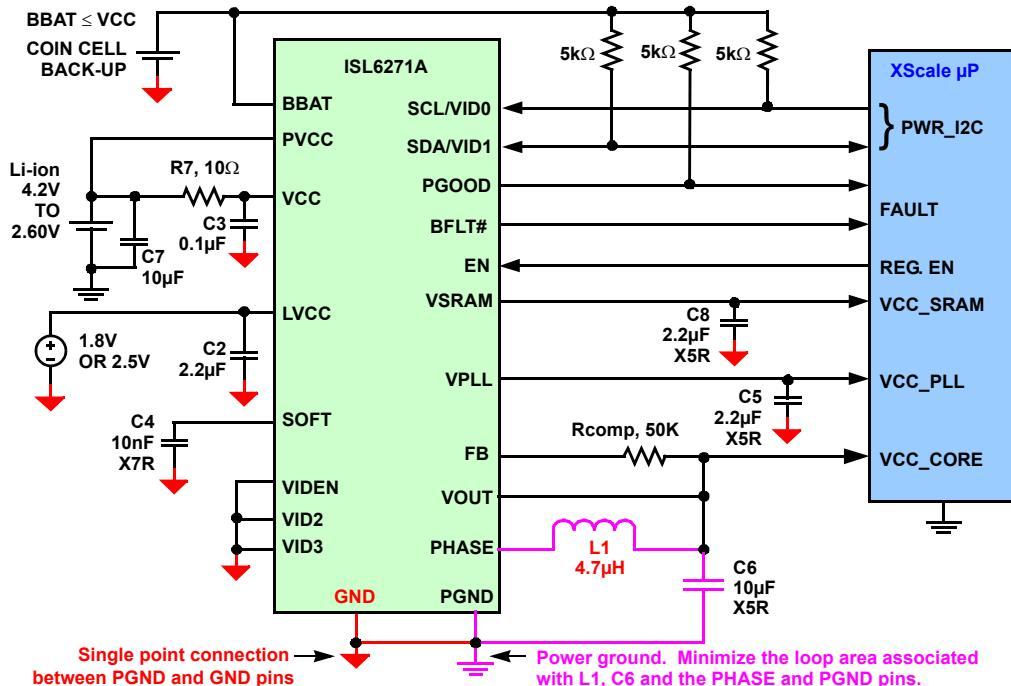

FIGURE 19. TYPICAL APPLICATION CIRCUIT
To minimize switching noise, it is important to keep the loop area associated with the phase node and output filter as short as possible. It is also important that the input voltage decoupling capacitor C7 be located as close to the PVCC pin as possible and that it has a low impedance return path to the PGND pin. In general a good approach to layout is to consider how switching current flows in a circuit, and to minimize the loop area associated with this current. In the case of the switching regulator, current flows from C7 through the internal upper P-MOSFET, to the load through the output filter and back to the PGND pin. *To maximize the effectiveness of any decoupling capacitor, minimize the parasitic inductance between the capacitor and the circuit it is decoupling.* Notice that Figure 19 illustrates the SIGNAL ground with RED highlighting. All components associated with these terminals should be tied together first. Be sure to make only one connection between this net and the PGND pin to avoid ground loops and noise injection points into sensitive analog circuitry.
1. Do not leave pins VID2(5) or pin VID3(6) floating when using the I2C bus. Tie these pins to GND (16).
2. Make sure that load current on VOUT returns to the pin 7 (PGND). Pin 16 (GND) functions as a quiet return for the LVCC loads. Tie Pin 16 to Pin 7 at a single point as in Figure 19.